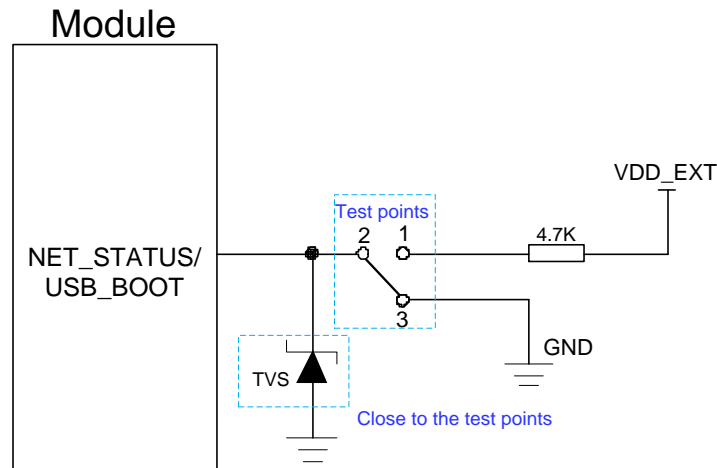

Figure 15: Reference Design of USB_BOOT
2. Follow the above timing sequence when using MCU to control module to enter the forced download mode. Directly connect the test points as shown in **Figure 15** can manually force the module to enter download mode.